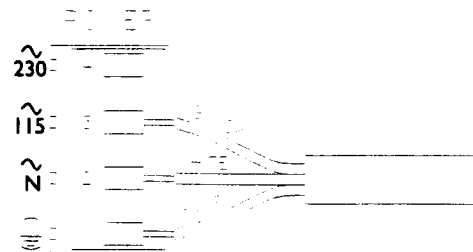

FIGURE 2-14
- *The "ground symbol" Terminal 1 on TB3 (Figures 2-14, 2-16, or 2-18) for analyzers with no letter prefix serial number.*